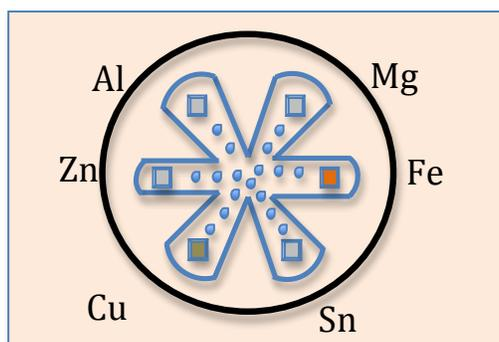

Figure 3.
4. Using a Pasteur pipet or capillary tube, add several small drops of 1 M KCl to saturate the filter paper. Be sure there is a continuous trail of KCl between each circle and the center. You may have to periodically reapply solution to the filter paper during the course of the experiment if it dries out. At this point your electrochemical cell is complete as shown in Figure 3.